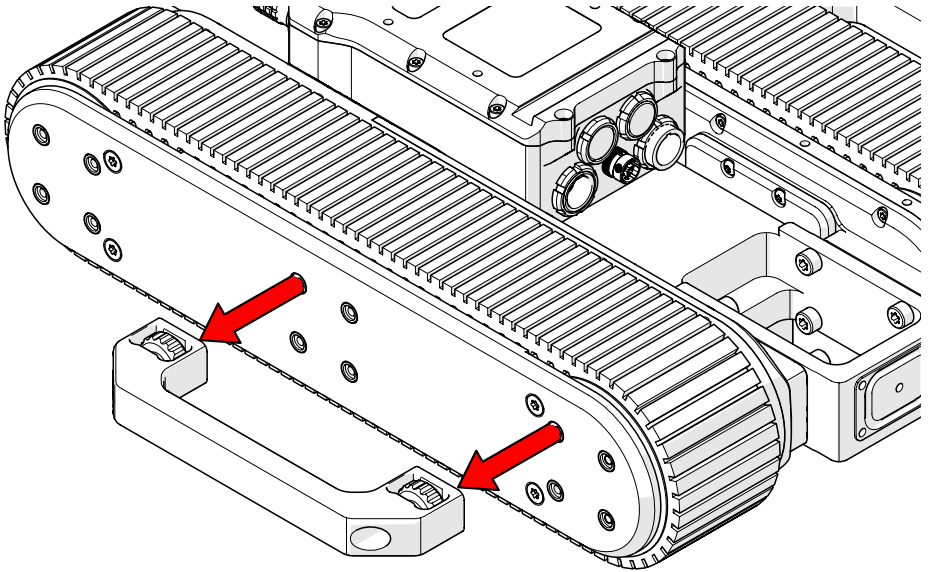

Fig. 42 - Remove handles on both sides
1. Remove both handles (Fig. 42) from the scanner (see "Handles" on page 40 for additional details).